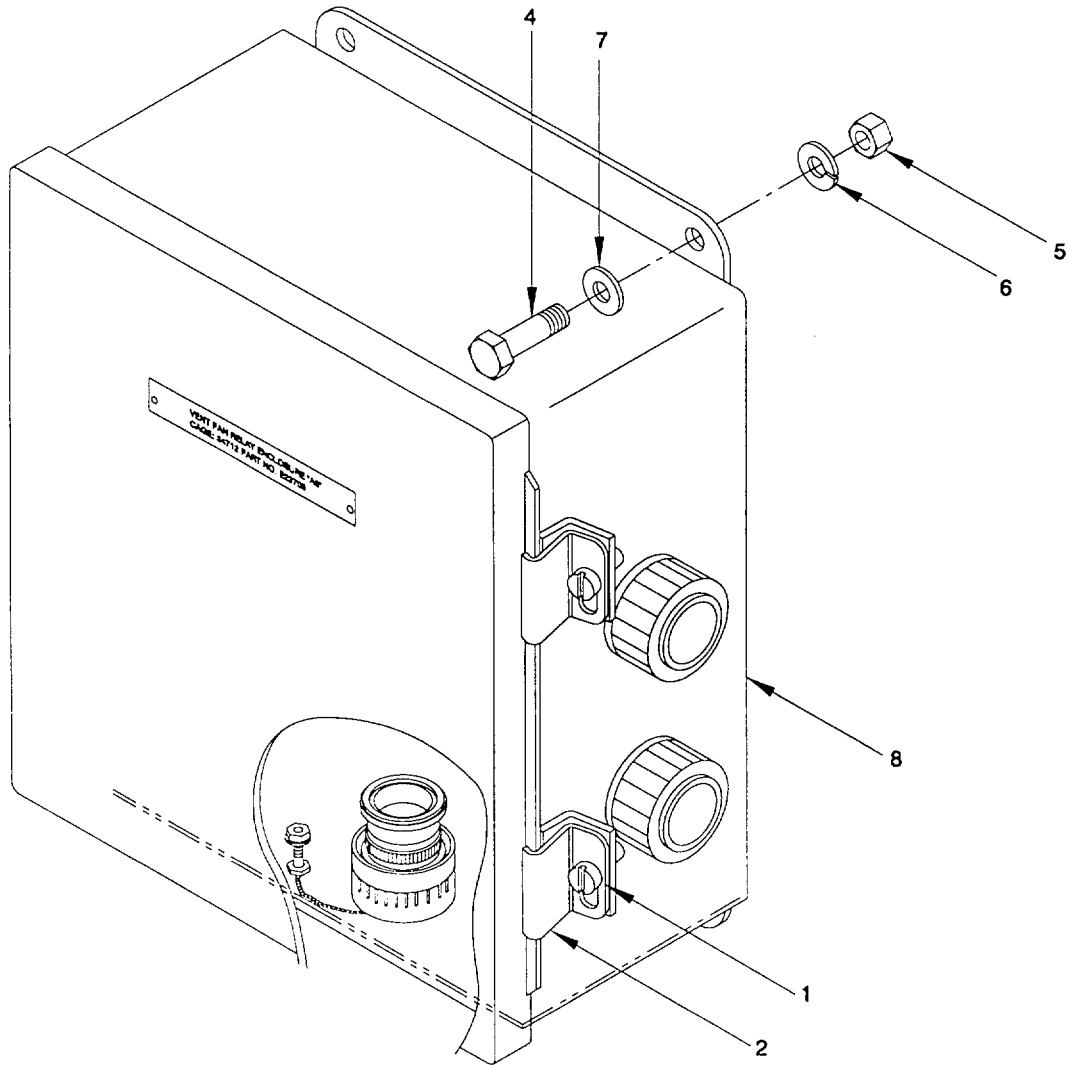

Figure 2-69. Vent Fan Relay Enclosure Assembly "A8", Remove/Install
a. Remove. (figure 2-69)
- (1) Remove three screws (1) and three clamps (2) securing cover (3) to enclosure (8). Swing cover (3) open.
- (2) Disconnect and tag electrical wiring to Vent Fan Relay Enclosure Assembly. Refer to Appendix G.
- (3) Remove four hex head capscrews (4), four hex nuts (5), four flat washers (6) and four lock washers (7) securing enclosure. Remove Vent Fan Relay Enclosure (8).
b. Install. (figure 2-69)
- (1) Apply sealing compound to capscrews (4) and screws (1).
- (2) Position Vent Fan Relay Enclosure (8) and secure with four hex head capscrews (4), four flat washers (6), four lock washers (7) and four hex nuts (5).
- (3) Reconnect electrical wiring, as tagged, to Vent Fan Relay Enclosure Assembly. Refer to Appendix G. Use tie wraps to secure any loose wires.
- (4) Close cover (3) and secure with three clamps (2) and three screws (1).